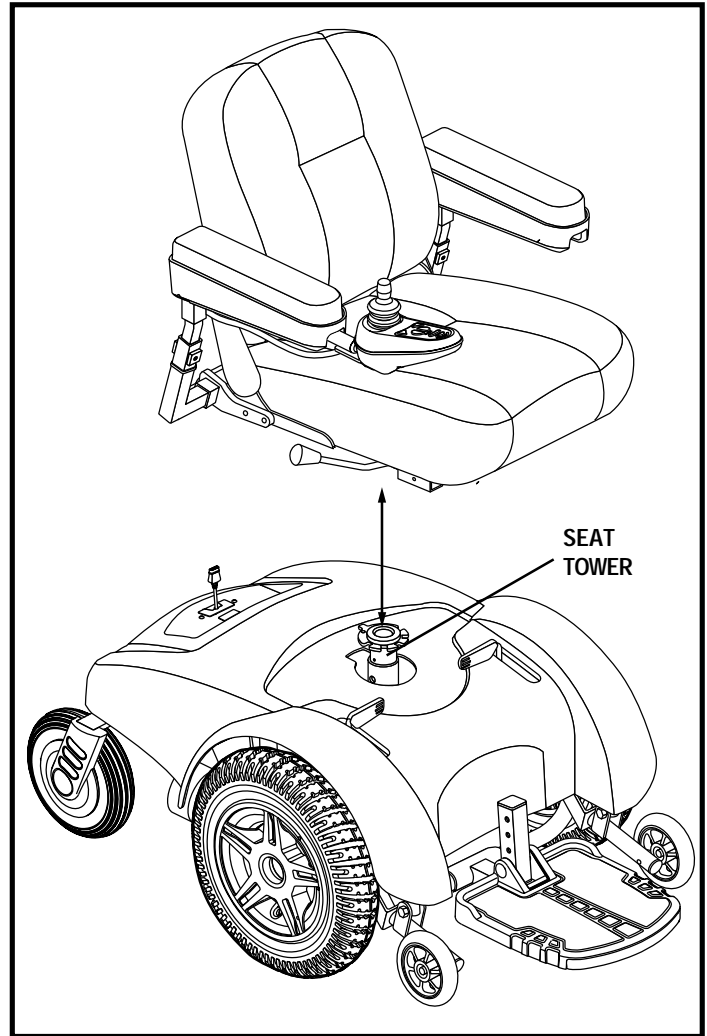

Figure 10. Seat Installation
1. Set the seat on the seat tower. See figure 10.